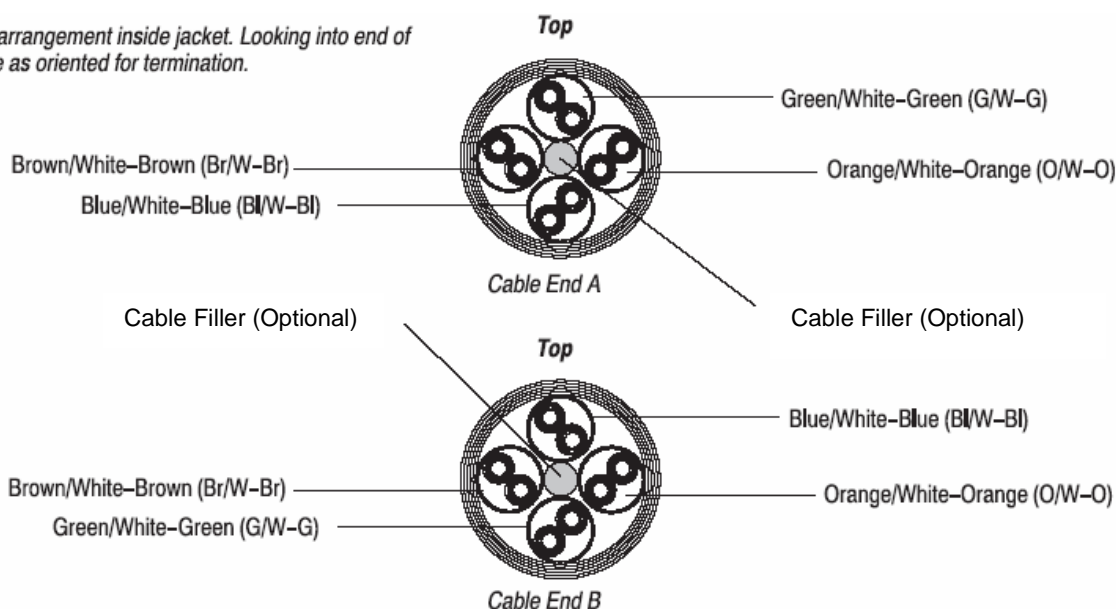

Figure 2
6. Cable Pair Arrangement: The arrangement of colour-coded pairs within the cable jacket applicable to TIA/EIA T568B wiring and the termination procedures described in this specification is shown in Figure 3. Cable end A applies to one end of the cable and cable end B to the opposite end. For TIA/EIA T568A wiring or termination of cables with pair arrangements other than shown in Figure 2, contact the responsible Tyco Electronics Engineering Department.